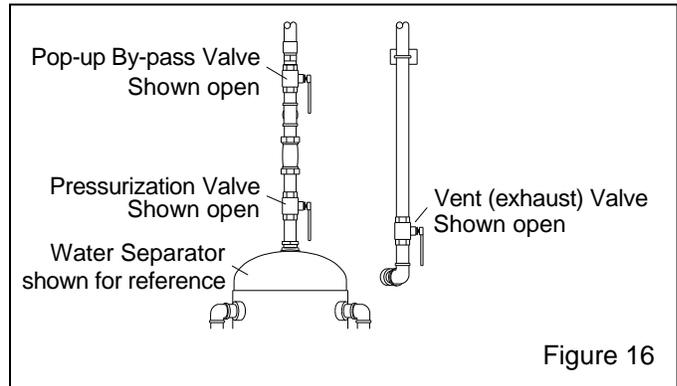

Figure 16
4.2.8 Make sure the pressurization valve is closed. Refer to Figure 16.